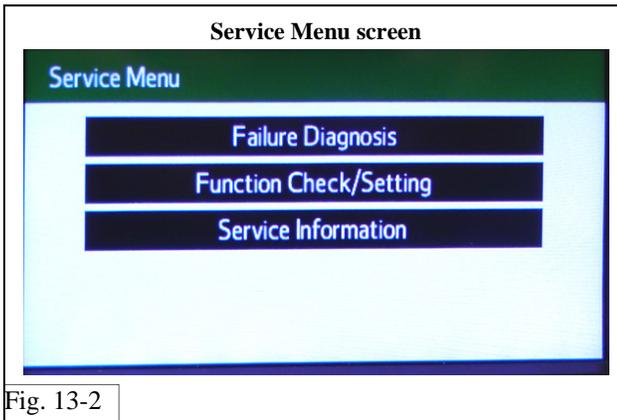

Fig. 13-2
- 4) The Service Menu screen will appear (Fig. 13-2).